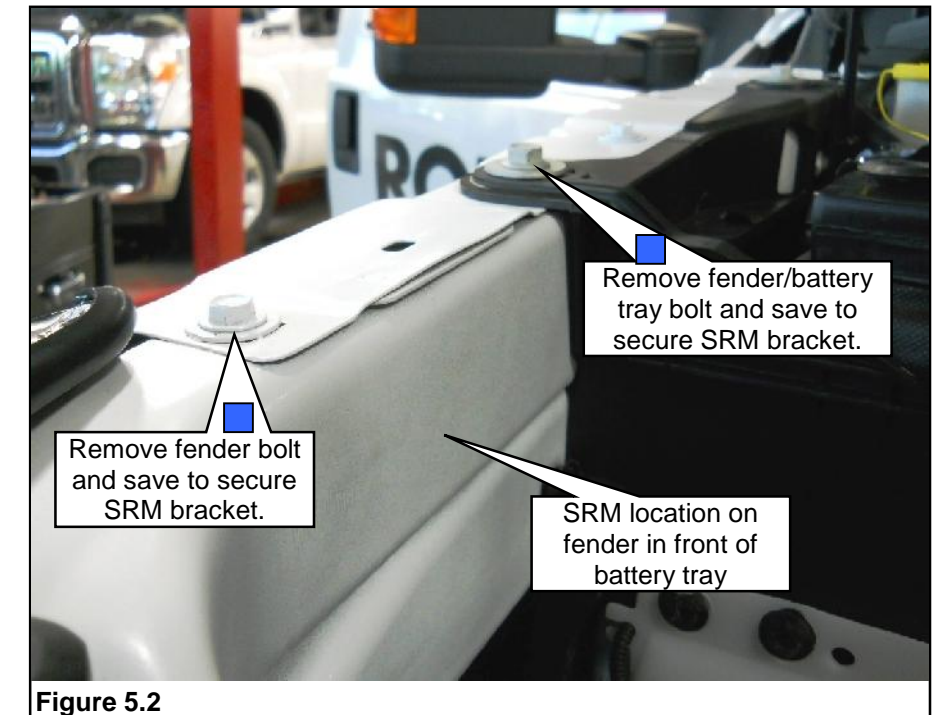

Figure 5.2
2. Remove the bolts at the top of the fender. These bolts are used to secure the SRM assembly. Save for reuse. **Note:** The front battery tray bolt is used at the top rear of the SRM bracket. The rear lip of the bracket must be placed under the front lip of the battery tray. **Figure 5.2.**